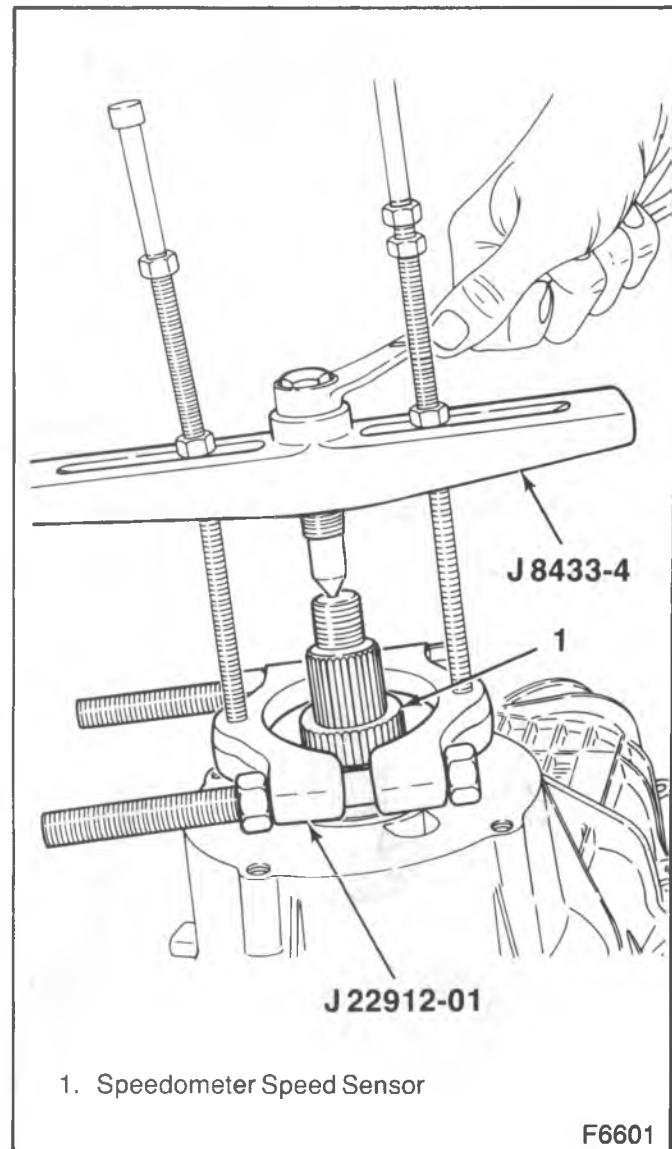

Figure 4—Removing the Speedometer Sensor
Remove or Disconnect (Figures 4 through 21)
- Speedometer tone wheel (1) from the mainshaft (23) using J 22912-01 and J 8433-4 or equivalent (figure 4).
- Tone wheel snap ring (3) from the mainshaft (23).